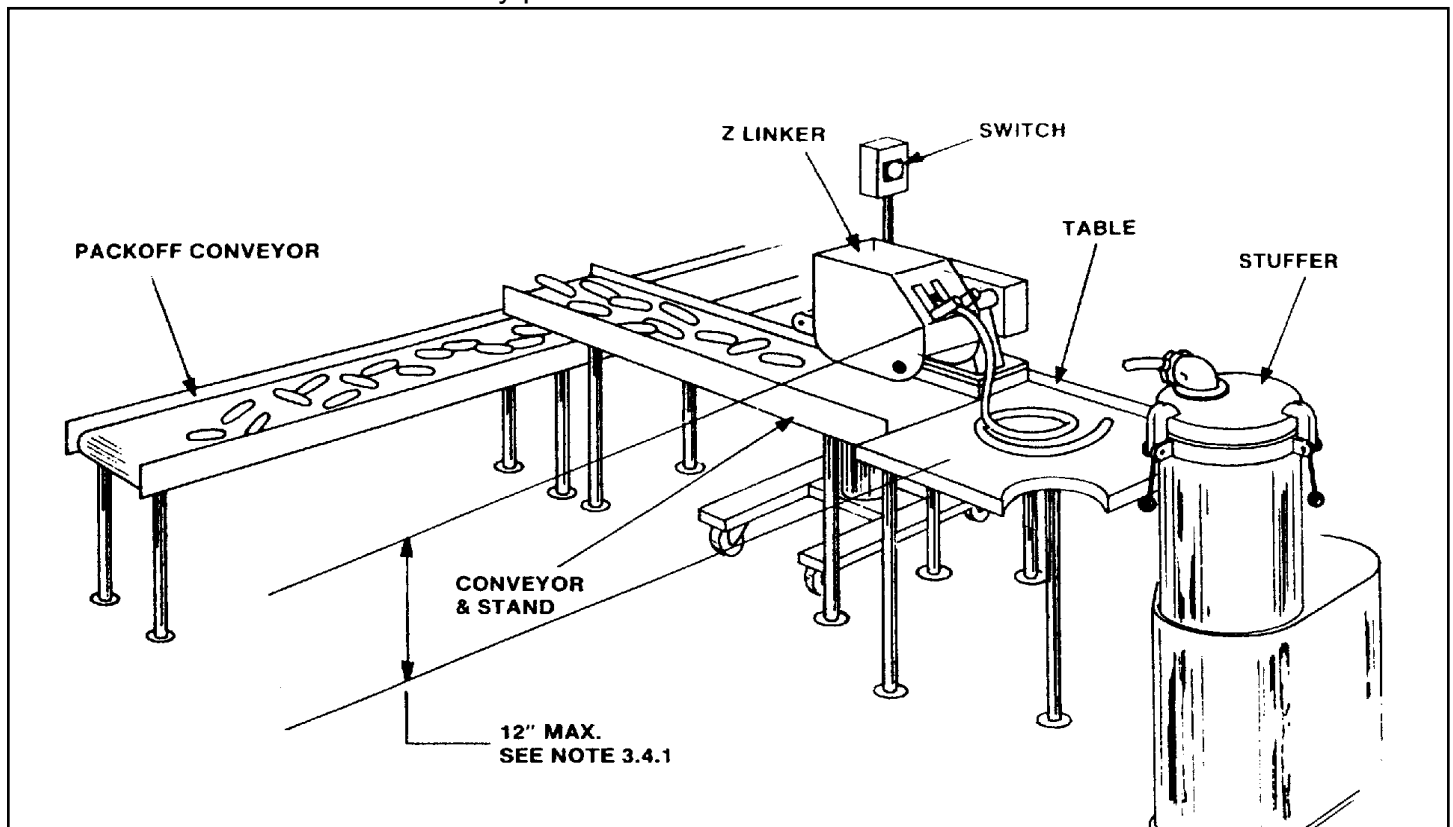

Figure 3-1 Z Linker with packoff conveyor.
Installations may include conveyors shown in Figures 3-1 and 3-2. Be sure the machine is firmly mounted with no interference in any position.
4. Refer to Figure 3-1 and 3-2 for orientation and guidance.
6. Feed one end of stuffed sausage casing into the Guide Roll Bracket Sub-Assembly. The machine is “self feeding” if coiled sausage casing is positioned as illustrated in Figures 3-1 and 3-2.